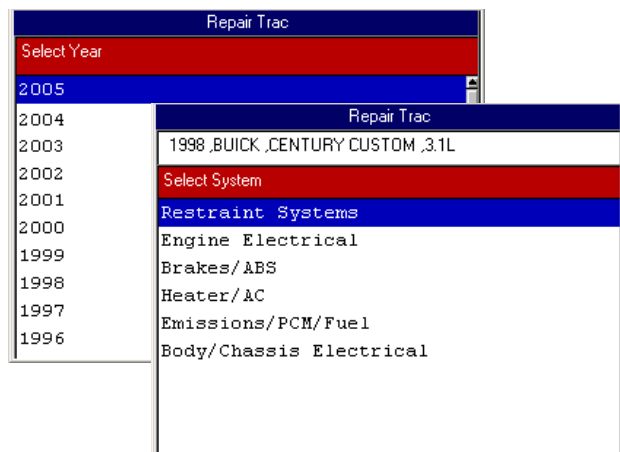

Figure 10.2: Repair Trac Vehicle Entry Screens
- 2 From the main menu screen, select **Repair Trac**. This displays the first of a series of vehicle entry screens (Figure 10.2).